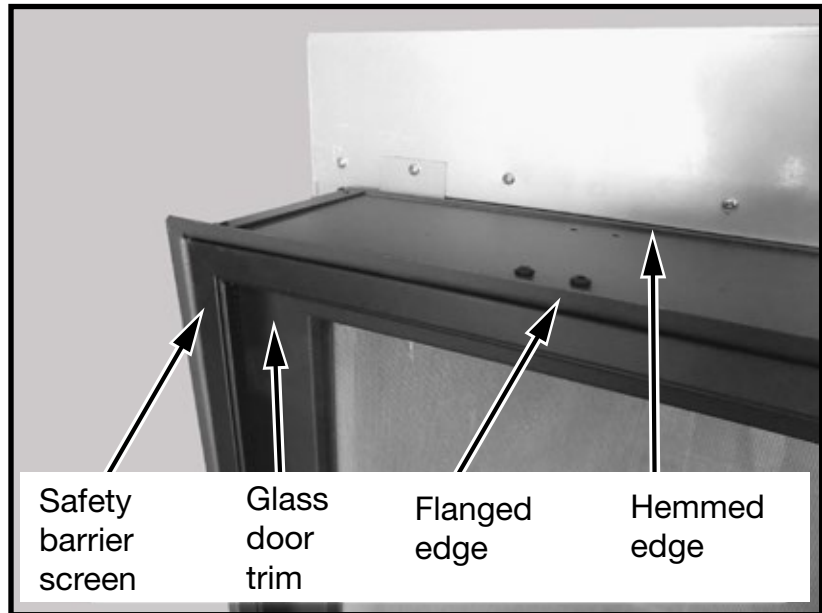

Figure 22: Lintel and trim.
1. The adjustable lintel assembly has two orientations for desired finishing. The flanged edge and the hemmed edge (Figure 22). The lintel comes factory installed with the flange edge out. If the desired edge is different from the factory setting, use the following steps to change it.